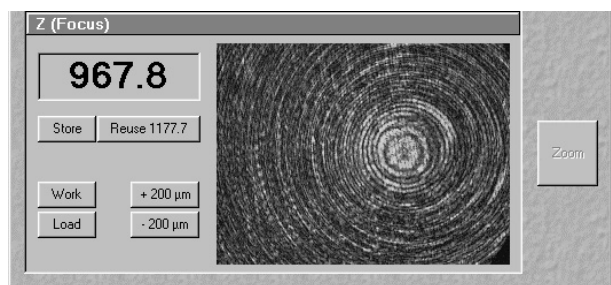

Fig. 3-15 Camera image far away from the lower cover slip surface
- The camera window shows interference fringes caused by the laser light (Fig. 3-15).